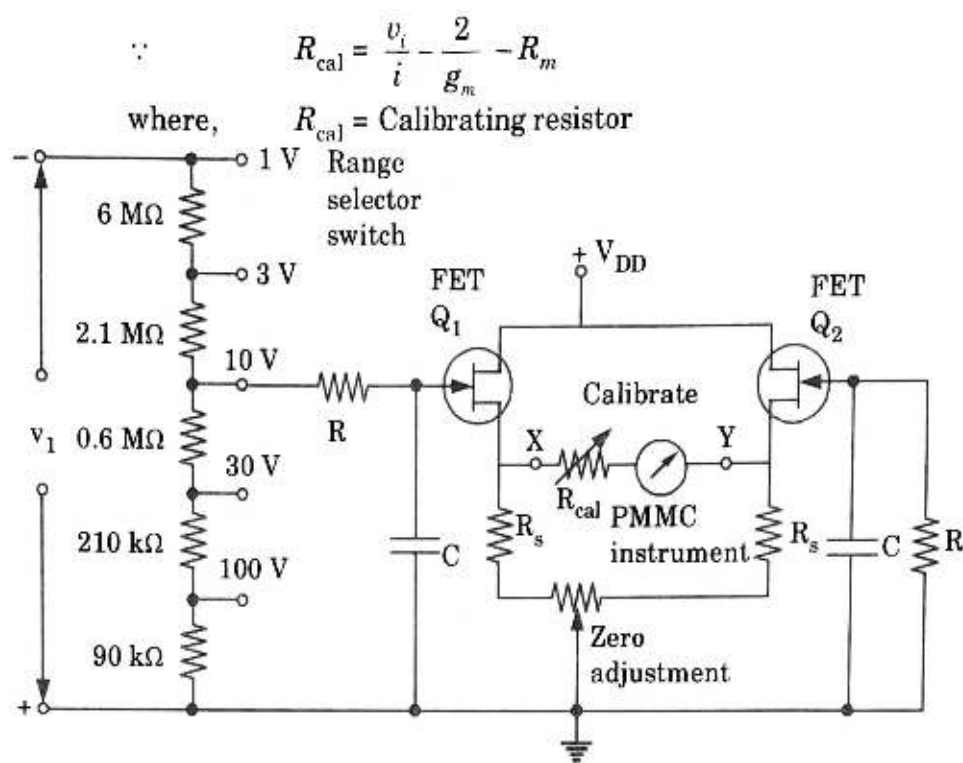

Fig. 2.2.3.
12. The practical circuit of a source follower type of electronic voltmeter is shown in Fig. 2.2.3. The circuit of Fig. 2.2.3 includes a zero adjustment, a calibration adjustment and a potential divider circuit for extension of voltage range.